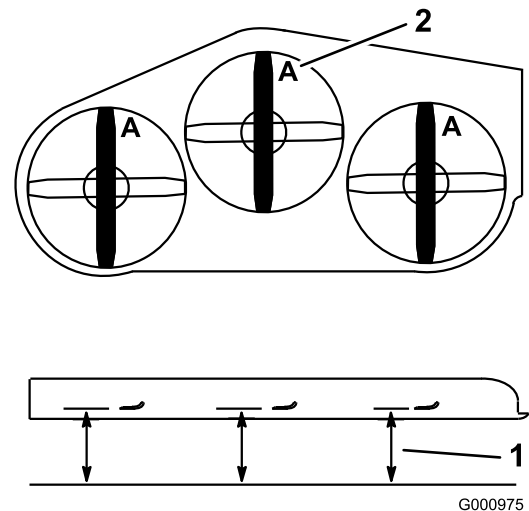

**Figure 74**
1. Inspect the cutting edges (Figure 74).
4. If you notice any cracks, wear, or a slot forming in this area, immediately install a new blade (Figure 74).